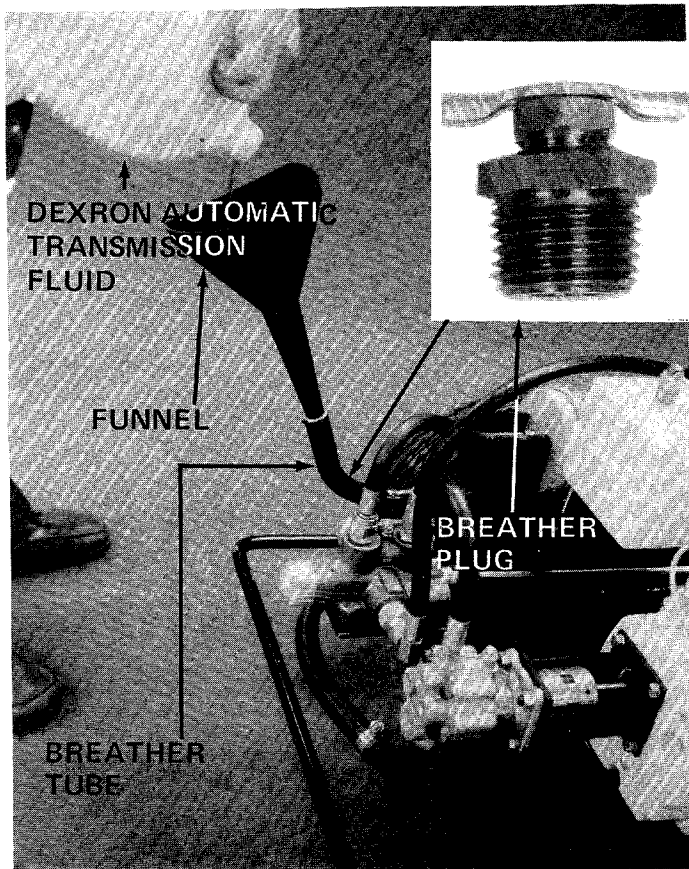
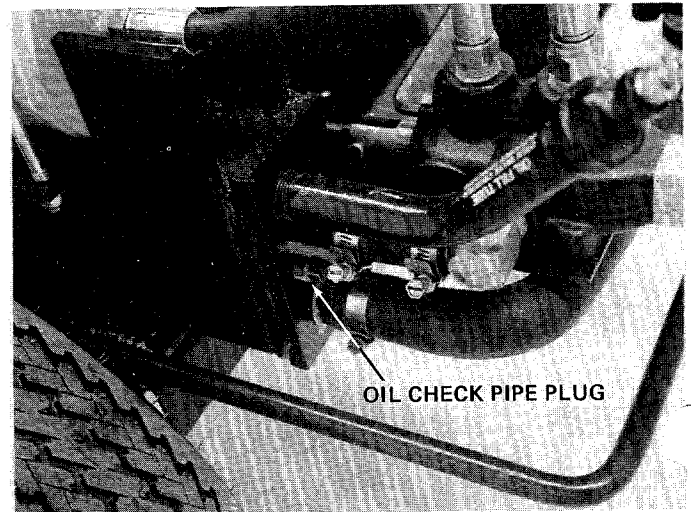

FIGURE 7
FIGURE 15
3. Fill reservoir tank on log splitter. Remove the breather plug from breather tube. See figure 7. Pour approximately 3 gallons of Dexron automatic transmission fluid ONLY into breather tube.
Check oil in log splitter reservoir before every use. See figure 15.
2. Remove check pipe plug in rear of beam. See figure 15. If oil starts to come out of check pipe plug hole, oil level is correct. IF IT DOES NOT add oil to breather tube (see figure 7) until oil starts out.
5. Remove the breather plug from breather tube. See figure 7. Pour approximately 3 gallons of Dexron transmission fluid ONLY into breather tube.